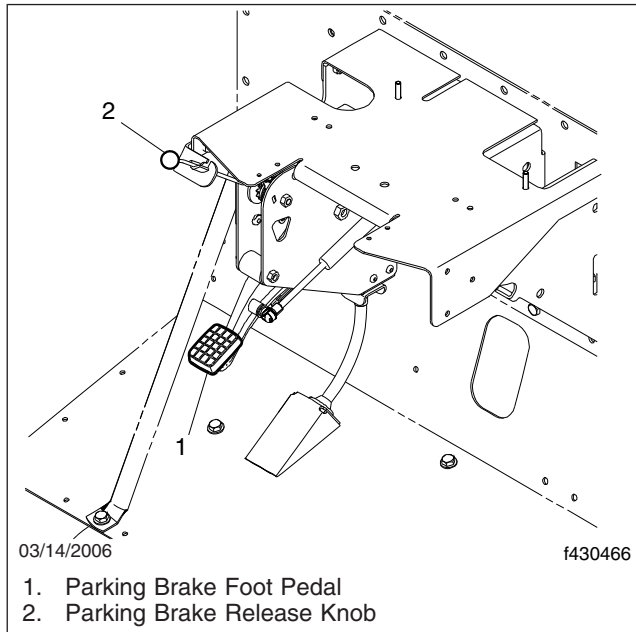

Fig. 9.2, Foot Pedal-Operated Parking Brake
To set the foot pedal-operated parking brake, place the gear selector in Neutral (N) and depress the parking brake foot pedal down to the floor. To release the parking brake, press the parking brake release knob located on the dash. See Fig. 9.2.
4. Release the parking brake. See **Fig. 9.2**.
5. While continuing to press the service brake pedal, press Reverse (R), Neutral (N), or Drive (D) on the electronic push-button shifter to put the vehicle into gear.